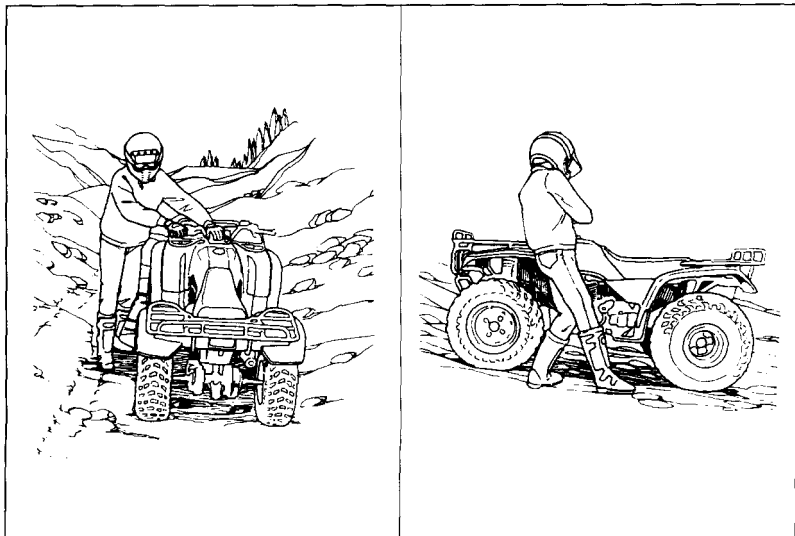

Fig. 3-14 Be sure your legs are clear of the wheels.
1. Stand with your body facing downhill, beside the vehicle so you can reach the rear brake lever with your right hand (See Figure 3-14.)